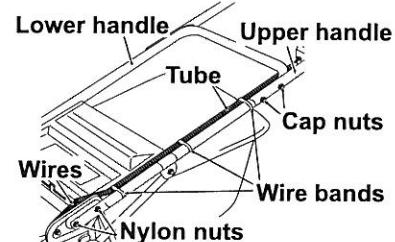

Fig. 8.
- 1 Install the lower handle to the machine (with 4 nylon nuts). (See Figs. 8, 9 and 10.)